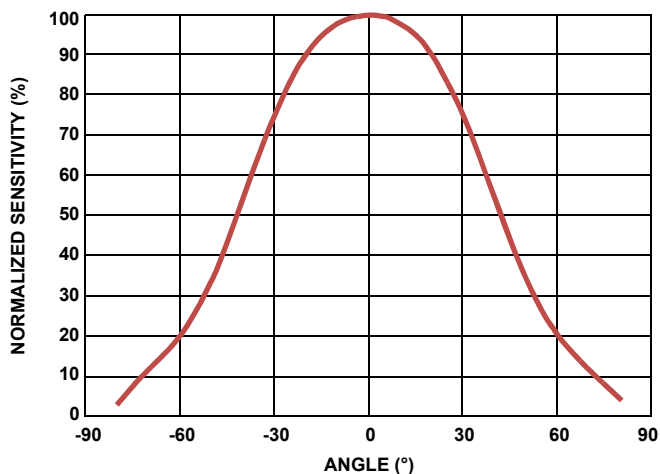

FIGURE 9. ALS ANGULAR SENSITIVITY (Note 15)
15. Figure 9 shows the Ambient Light Sensor Angular Sensitivity of the ISL29038 using a white LED light source.